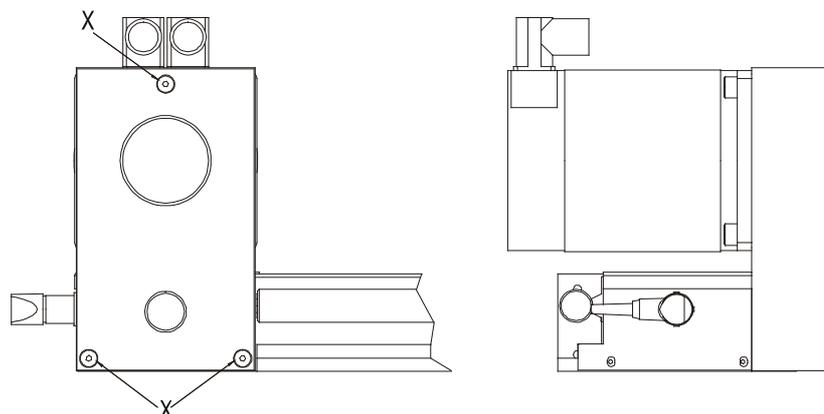

Figure 26: Belt gear of module 142
- Remove the motor flange cover by loosening the screws (see *Figure 26*, bottom **X**).
- Remove motor flange by loosening the attachment screws (**X**) (see *Figure 26*, page 27).
- Remove motor flange cover by loosening the screws of the motor flange, (see *Figure 26, page 27, X*).
- Attach motor flange cover again (see *Figure 26, page 27, X*)